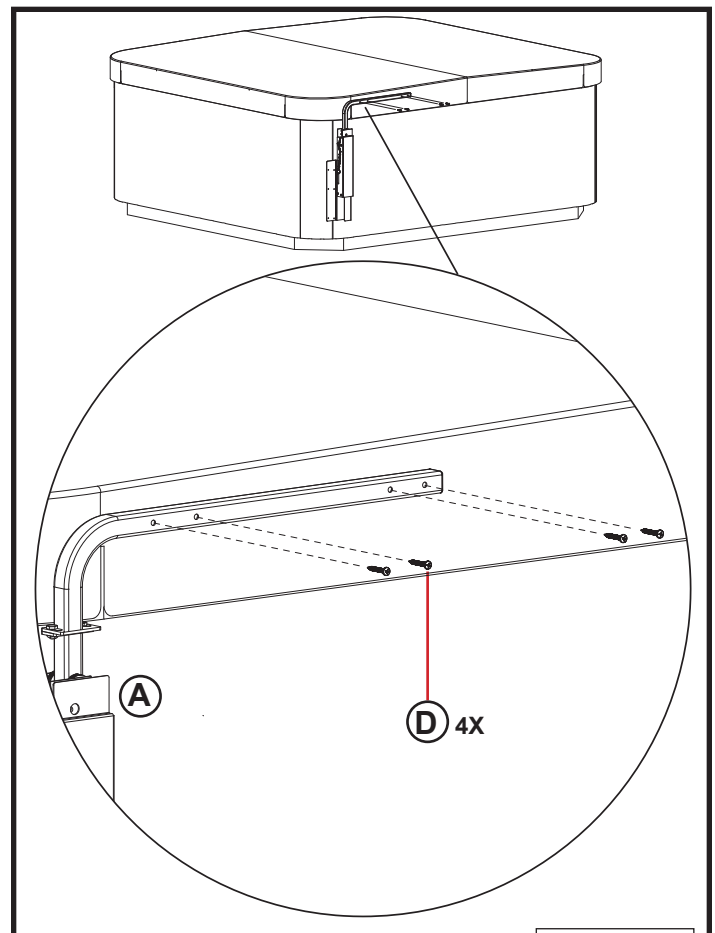

Figure 3.2
6. Align the holes on the Right Assy. Tube with pre-drilled holes on the cover (Figure 3.2).
7. While holding the Right Assy. Tube aligned with pre-drilled holes, use (4) 1½" Phillips pan head screws (D) found in Hardware Bag #1 to secure the Right Assy. Tube to the cover (Figure 3.2).